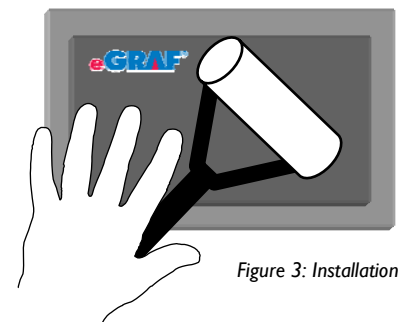

Figure 3: Installation
3. This can be followed by an additional step where a roller or press is used to apply more concentrated pressure and ensure good contact between the SPREADERSHIELD™ material and the surface. This also helps to reduce the air entrapment under the SPREADERSHIELD™ material (Figure 3).